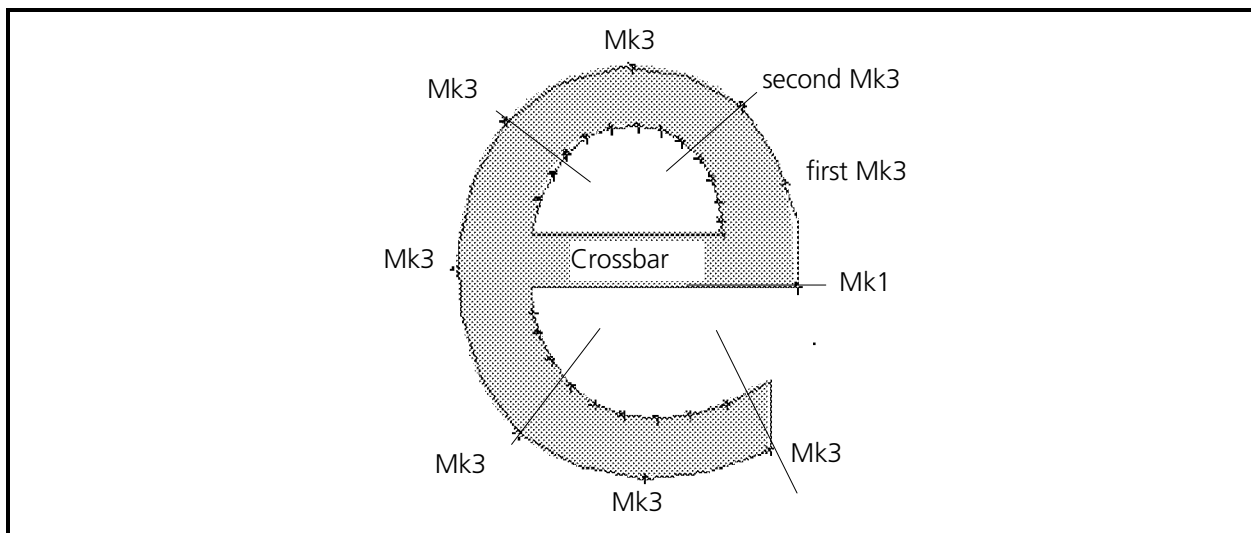

Figure 3-19
Rule one states to always begin with a Mk1. The beginning Mk1 has already been put at the lower right corner of the crossbar of the letter **e** (see step 6 in the previous section and Figure 3-19).
1. Enter a Mk3 in the middle of the first arc segment and another Mk3 at the location between the first and second arc segments (see Figure 3-19).